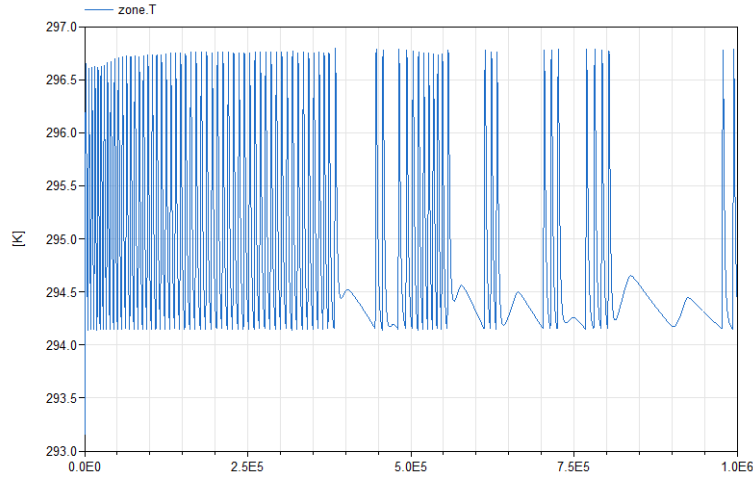

Figure 8: Air temperature in K as function of time in seconds with hysteresis controller.
**Reference result** Figure 8 shows the air temperature when the controller is added.